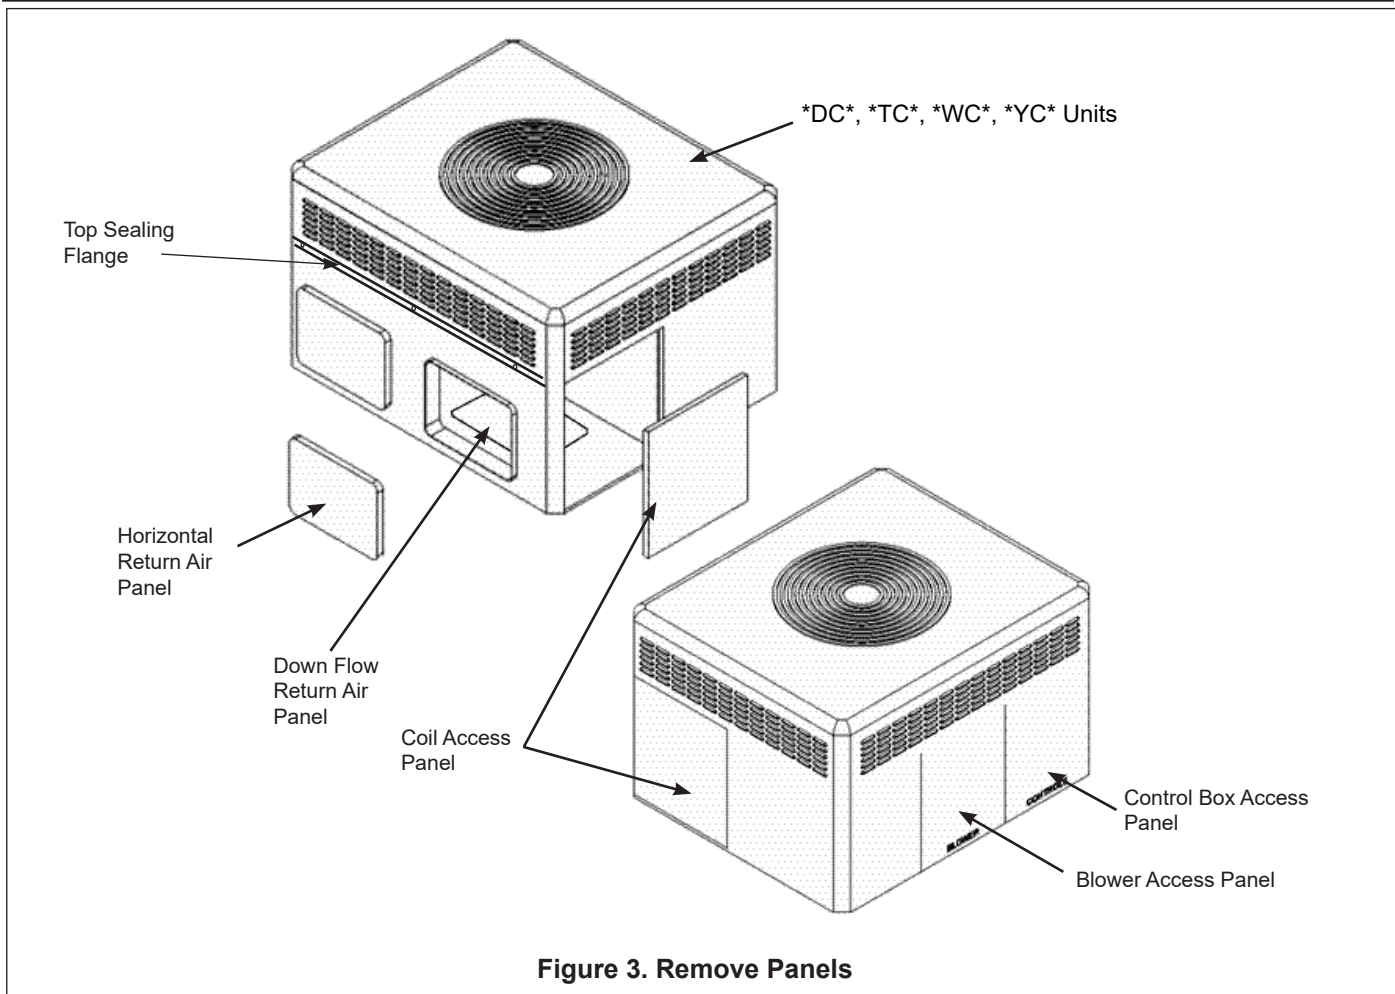

Figure 3. Remove Panels
Remove these four (4) access panels (see Figure 3):
1. Locate the rainhood assembly, which includes the relief damper and the mist eliminator. The back of the hood side mating flanges need to be gasketed (gaskets included in kit). Loosen the right two (2) screws on the unit's top sealing flange above the economizer. See Figure 3.